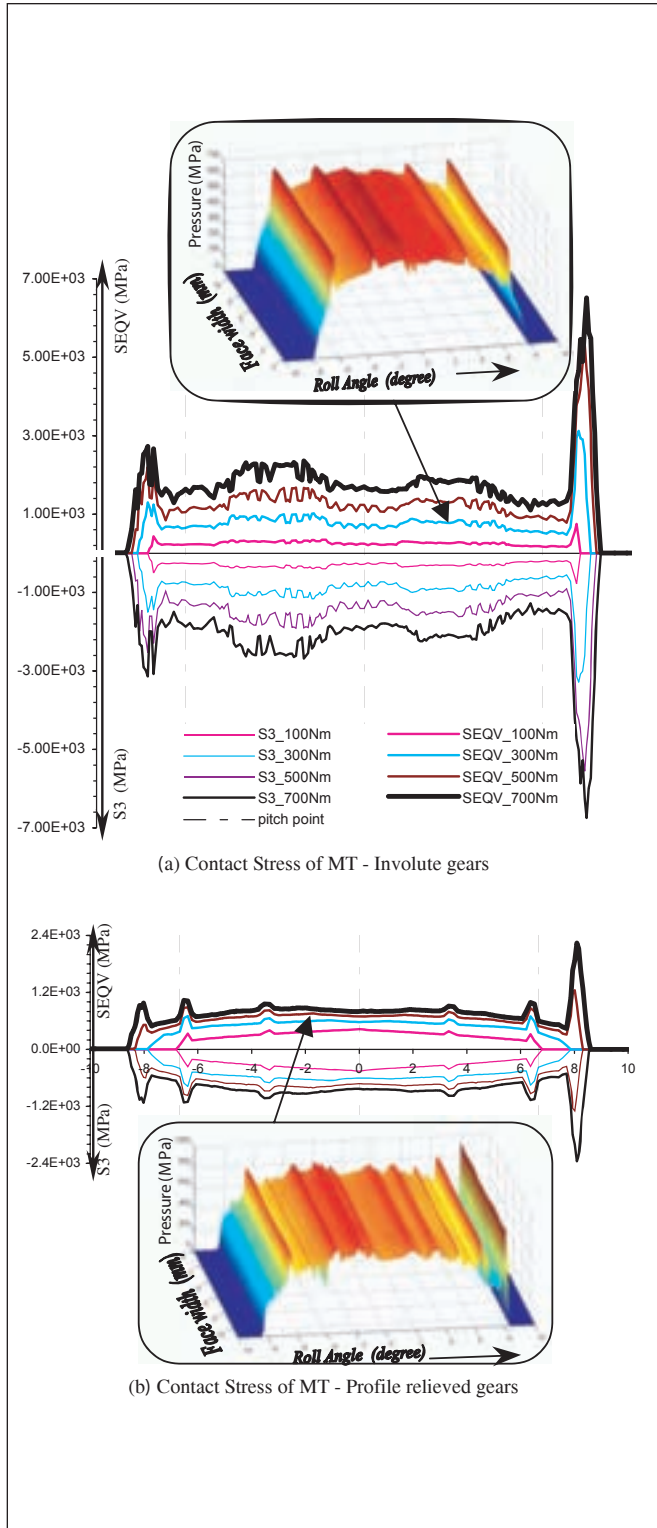

Figure 4—Contact stresses of mid-tooth over the mesh cycle under various loads.
It can be seen that each of the components has also been compared with that of unmodified gears in order to clearly demonstrate the meshing characteristic variations. The contact stresses of unmodified and modified gears are presented separately (Fig. 4).
- Contact stresses were significantly reduced, compared to unmodified gears, especially for loads under 300 Nm. Contact stresses tended to be smooth with only small stress irregularities at the relief starting point. However, the relatively high stress, especially for the contact recess case in Figure 4 (b), has shown that premature contact occurs near the tooth tip when the input load increases. The less significant, high stresses occurred at the contact approach case and at the relief starting point S_2 . Increasing the magnitude of profile modification P_1 or P_2 could avoid high stresses near the tooth tip, but it cannot avoid high stresses occurring at the relief starting point(s).